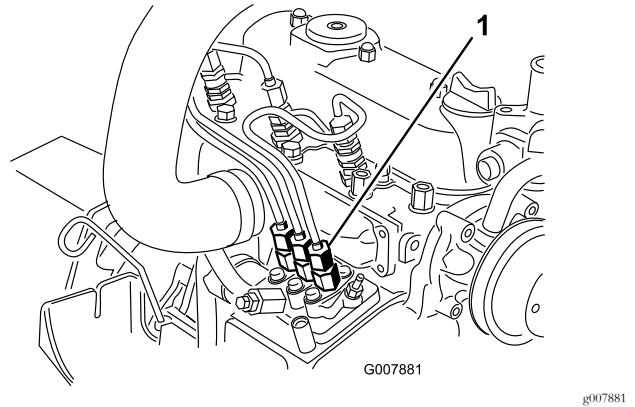

Figure 42
1. Place a rag under the pipe connection coming from the injection pump to the No. 1 injector nozzle as illustrated in Figure 42.